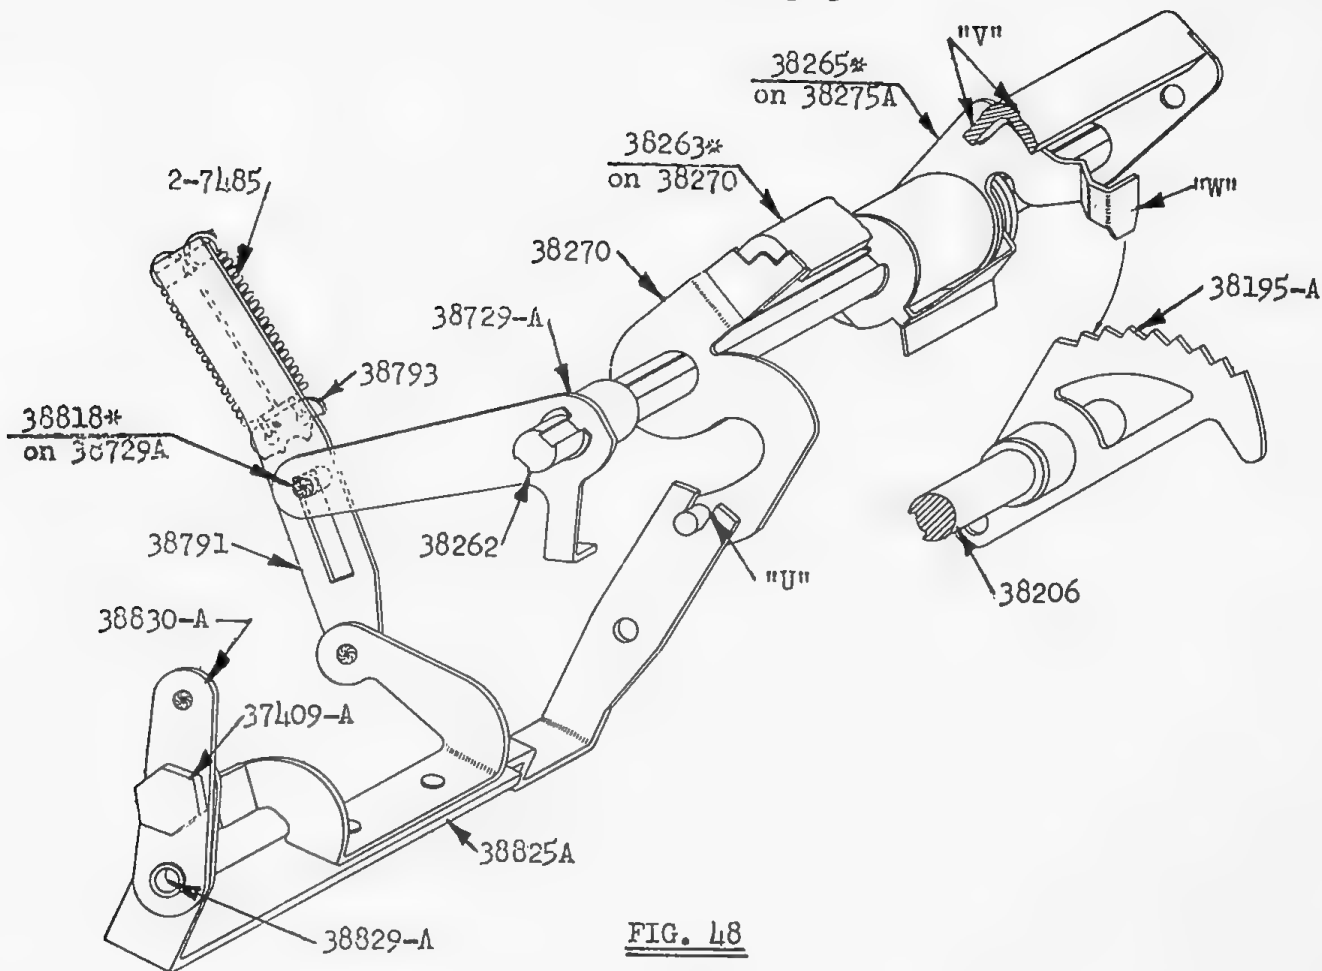
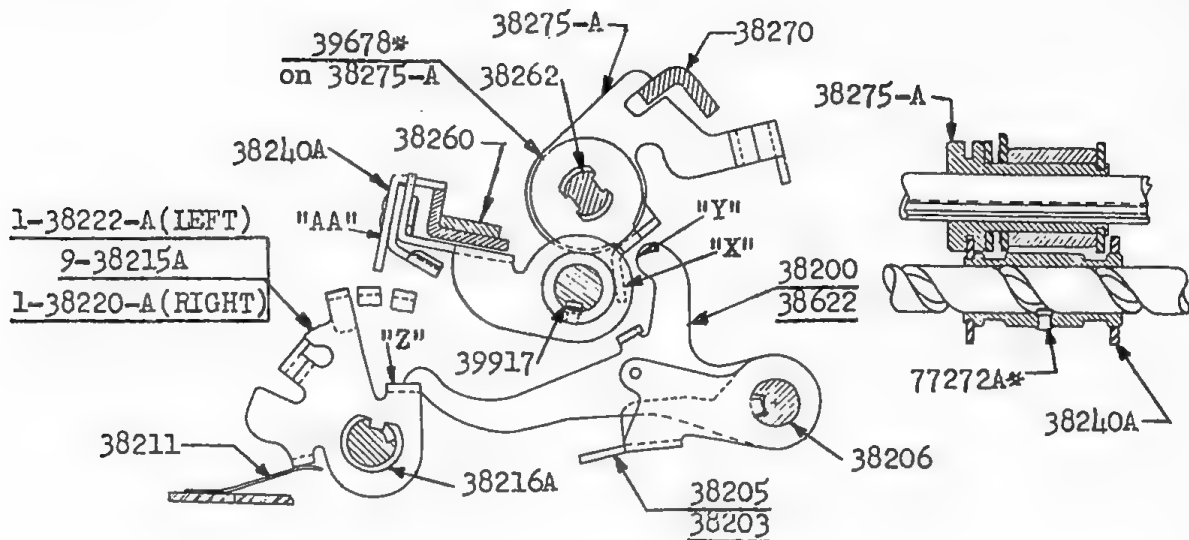

FIG. 48
FIG. 50
2. (Fig. 48). The forward extending arm of 38729A carries a Stud-38818* which goes through a slot in the Multiplier Sensing Yield Lever-38791 and which is connected to the upper ear on 38791 by Clip-38793 and two Springs-7485, so that counter-clockwise movement of 38729A yieldably pulls 38791 down. The lower end of 38791 is connected to the Multiplier Transfer Bail-38825A and rocks it counter-clockwise. Slot "U" on the left arm of 38825A embraces a Stud-38372* on the right arm of the Multi-
Bail-38825A in accordance with the digit, (#8 in Fig. 48), in the leftmost digit order.
4. (Fig. 50). Lever 38729-A, (Fig. 48), is tightly keyed to Shaft-38262 and rocks it counter-clockwise on the Setting Cycle. Also, fully keyed to Shaft-38262, (but laterally movable on it), is the Blocking Release Lever-39678* on 38275A which forms a part of the Traveller. When 39678* is rocked by Shaft-38262 its ear "X" contacts the surface "Y"
5. (Figs. 50 & 51). In order to allow the now unlatched ordinal member-38215A to fall back to its "Zero" position it is necessary to lift the Bail-38260 to eliminate the friction between plate "AA" and the upper ear on 38215A in the order adjacent to the left. This is accomplished by the Bail Lifter Driver-38845 which is tightly keyed to the right end of Shaft-38262,